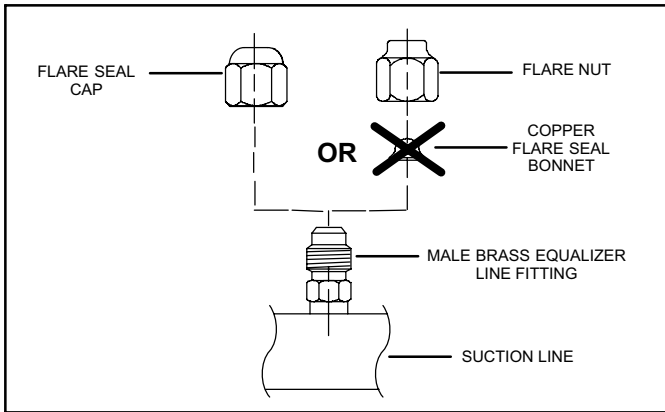

Figure 28. Copper Flare Seal Bonnet Removal
7. Remove and discard either the flare seal cap or flare nut with copper flare seal bonnet from the equalizer line port on the suction line as illustrated in figure 28.